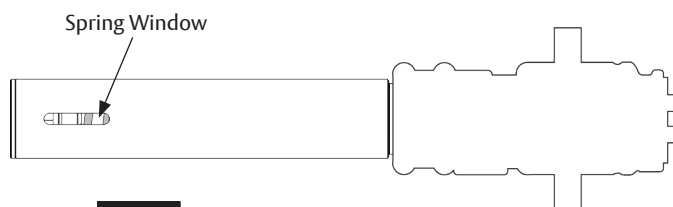

Figure 16
**NOTE:** Window in closer tube shows spring. (Figure 16)